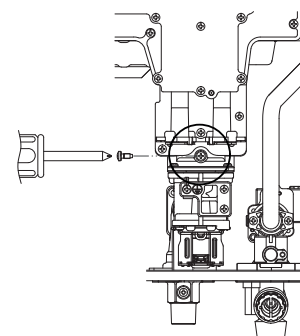

Fig.3
7. Attach the digital manometer to the test point located on the gas valve (Fig.3).